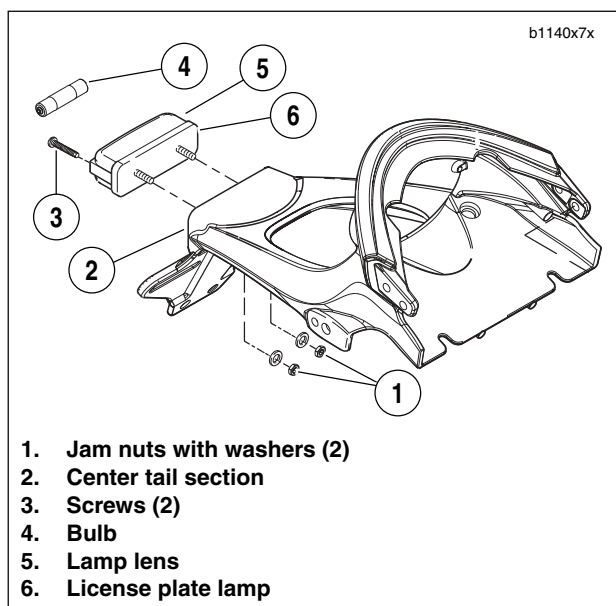

Figure 7-47. License Plate Lamp
See Figure 7-47. If replacing bulb only, remove both lamp lens screws (3), remove lamp lens (5) and remove bulb (4). Replace bulb and install lens and tighten screws.